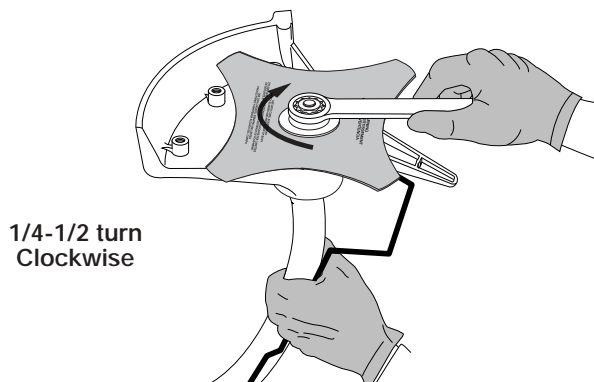

Fig. 13
- In the absence of a torque wrench, use a 11/16 inch closed-end or socket wrench. Turn the nut until the blade retainer is snug against the shaft bushing. Make sure that the blade is installed correctly. Then rotate the nut an additional 1/4 to 1/2 turn clockwise (Fig. 13).